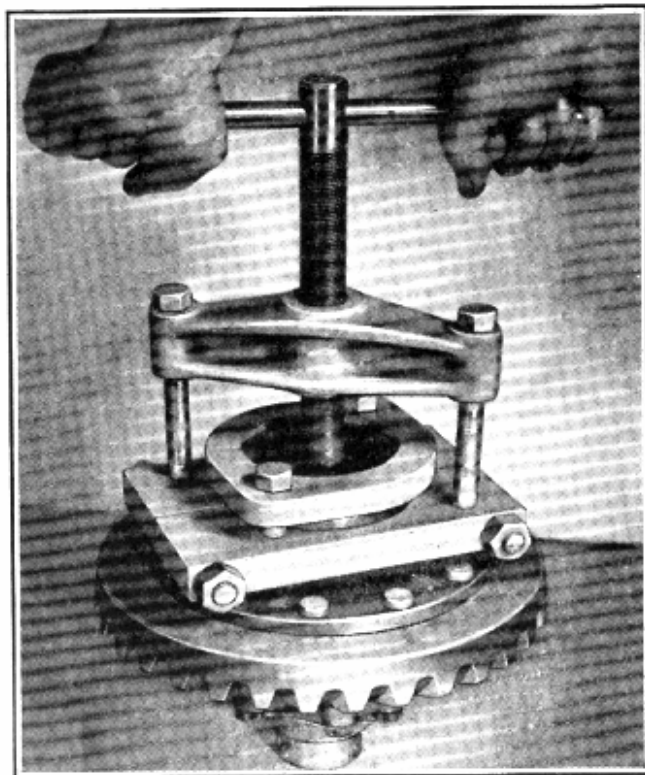

Fig. 35—Removing the Differential Side Bearings With Puller No. CS-1047
1. Place the differential assembly on a bench and examine the differential side bearings. If the bearings need to be replaced, use puller No. CS-1047 and remove both side bearings as illustrated in Fig. 35.